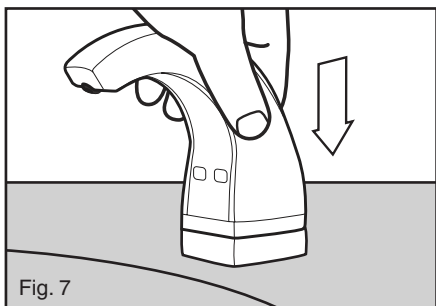

Fig. 7
8. Finalize the position of the threaded soap discharge head and then press down firmly to secure it (see figure 7).